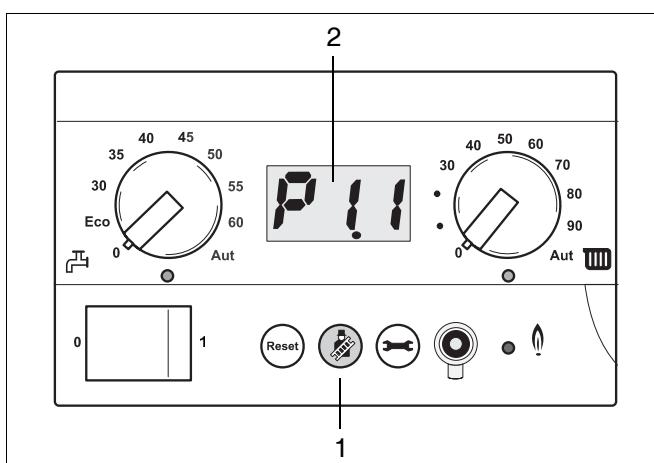

Fig. 2 BC 10
- Press the service button until the system pressure "P1.1" appears in the display (fig. 2, item 2).
- Press the service button (fig. 2, item 1) until the system pressure "P1.1" appears in the display (fig. 2, item 2).